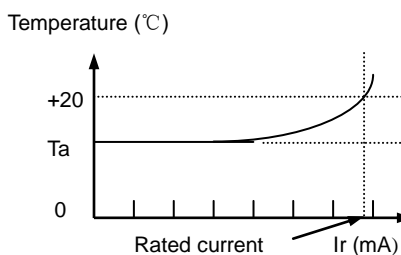

Fig. 5.3.3-2
- e. When operating temperatures exceeding +85 °C, derating of current is necessary for chip ferrite beads for which rated current is 1000mA and over. Please apply the derating curve shown in chart Fig. 5.3.3-3 according to the operating temperature.